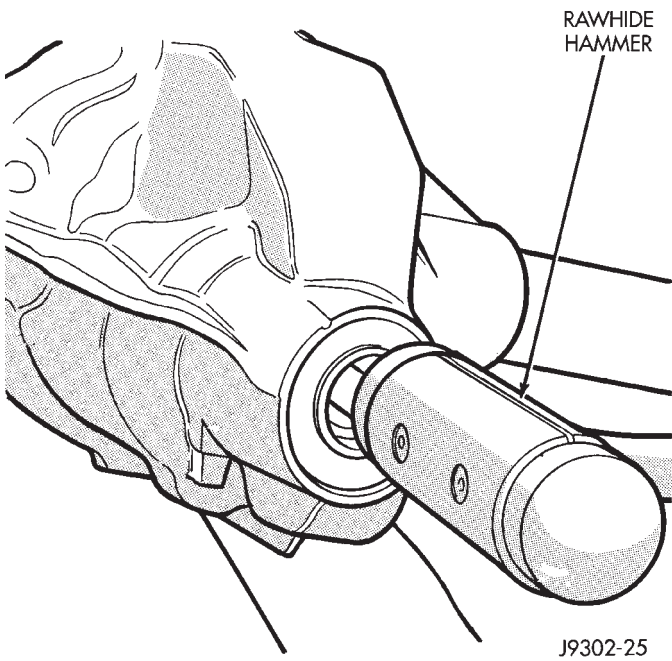
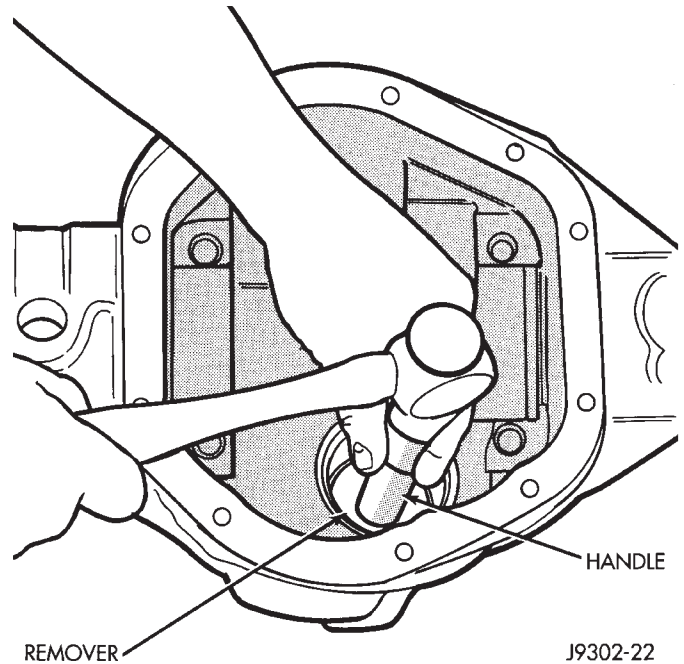

Fig. 35 Remove Pinion Gear
Fig. 36 Front Bearing Cup Removal
- (6) Remove the pinion gear from housing (Fig. 35). Catch the pinion with your hand to prevent it from falling and being damaged.
- (7) Use a suitable pry tool or a slide hammer mounted screw to remove the pinion shaft seal.
- (8) Remove oil slinger, if equipped, and front pinion bearing.
- (9) Remove the front pinion bearing cup with Remover C-4345 and Handle C-4171 (Fig. 36).